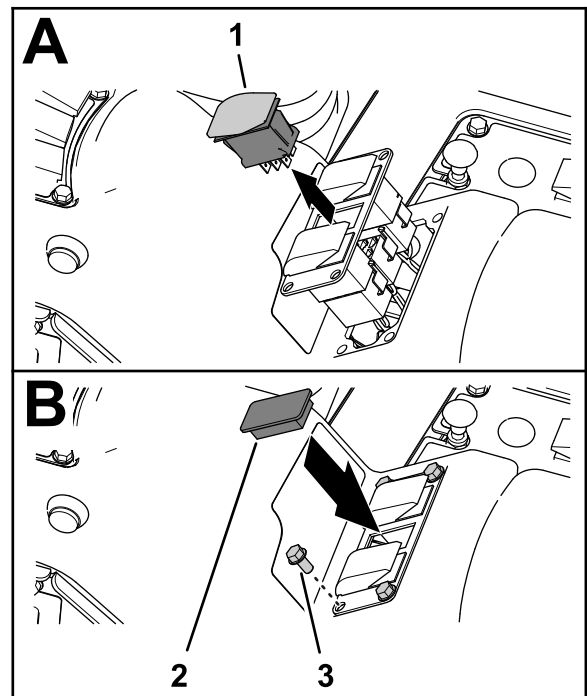

Figure 32
2. Squeeze the lock tabs of the rate-control switch together and push up the switch out of the 3-switch panel (Figure 32).
5. Assemble the 3-switch panel to the control console (Figure 32) with the 4 flange head screws (1/4 x 1/2 inch) that you removed in step 1.